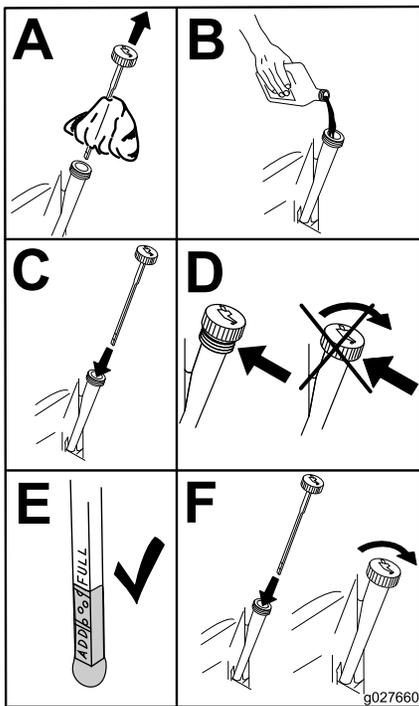

Figure 63
5. Slowly pour approximately 80% of the specified oil into the filler tube and slowly add the additional oil to bring it to the **Full** mark (Figure 63).